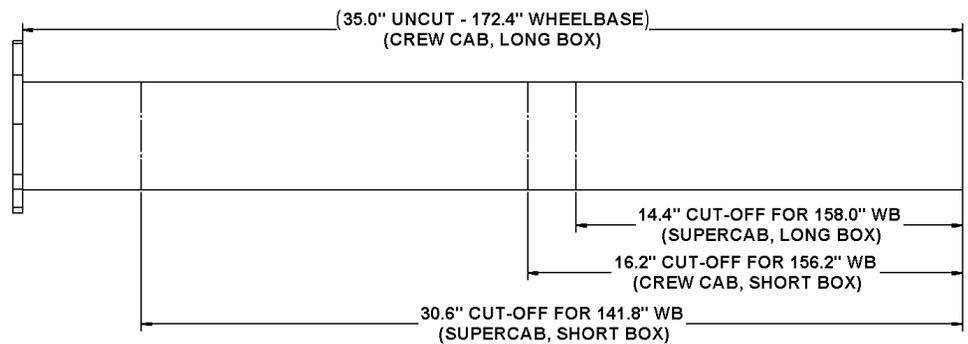

Figure 8
1. The **Extension Pipe** is pre-cut for the 172.4" (crew-cab long-box) wheelbase. Cut the **Extension Pipe** to the appropriate length for the installation vehicle. **Refer to Figure 8.**